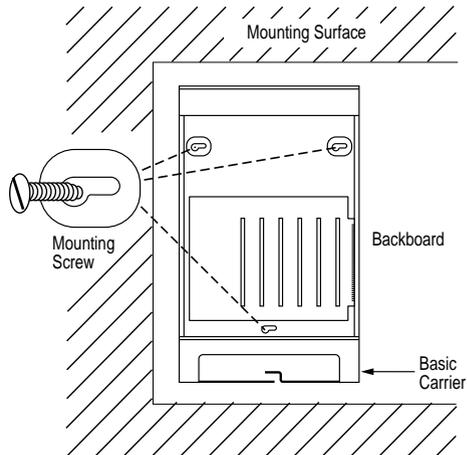

Figure 2-9. Marking the Basic Carrier Screw Holes
1. Mark the screw-hole locations on the backboard using the basic carrier or the diagram in Figure 2-9 as a guide.